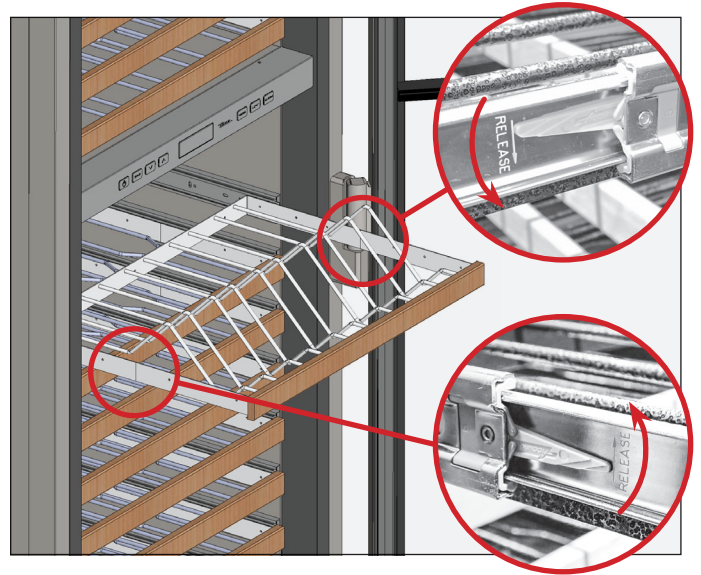

FIG. 1. Push the left release tab up and the right release tab down.
2. Push the slide release tabs as indicated by the release arrows (see fig. 1) and pull the wine rack forward.